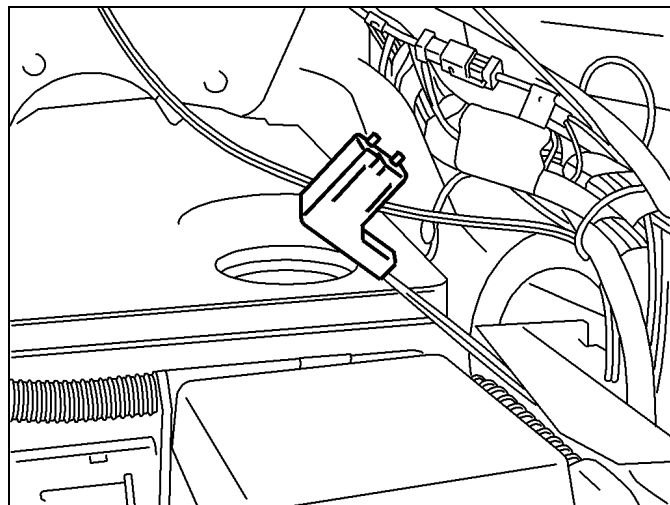

Figure 3
- b) 90-degree angle connector (Figure 3) Disassemble by gently separating the two plastic housing halves.
- c) Straight connector (not shown: similar to Figure 3, but straight) Disassemble by gently separating the two plastic housing halves.